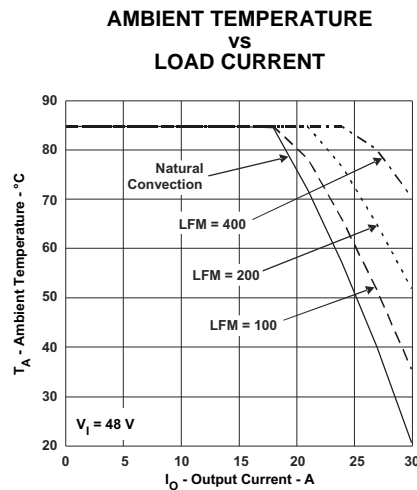

Figure 4.
- (2) The temperature derating curves represent operating conditions at which internal components are at or below manufacturer's maximum rated operating temperature. Derating limits apply to modules soldered directly to a 100–mm × 100–mm, double-sided PCB with 2 oz. copper. For surface mount packages, multiple vias (plated through holes) are required to add thermal paths around the power pins. Please refer to the mechanical specification for more information. Applies to Figure 4.